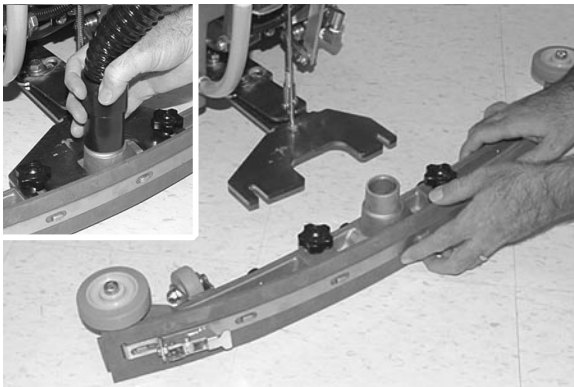

FIG. 3
2. Loosen two thumb knobs on squeegee and slide squeegee into slot at rear of squeegee mount bracket (Figure 3). Tighten thumb knobs securely.
3. Connect vacuum hose to squeegee assembly (Figure 3).